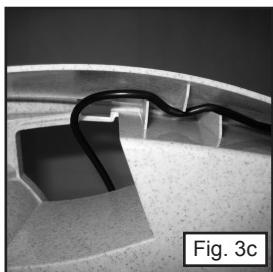
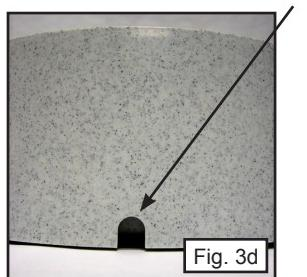

Fig. 3c
Fig. 3d
- 2) Thread the plug through the opening next to the pump. Under the arch you can tuck the cord into “cord channels” (Fig. 3c), then move the cord along the back of the fountain to the “cord pass-through.” (Fig. 3d) Use this pass-through to keep the cord from showing.